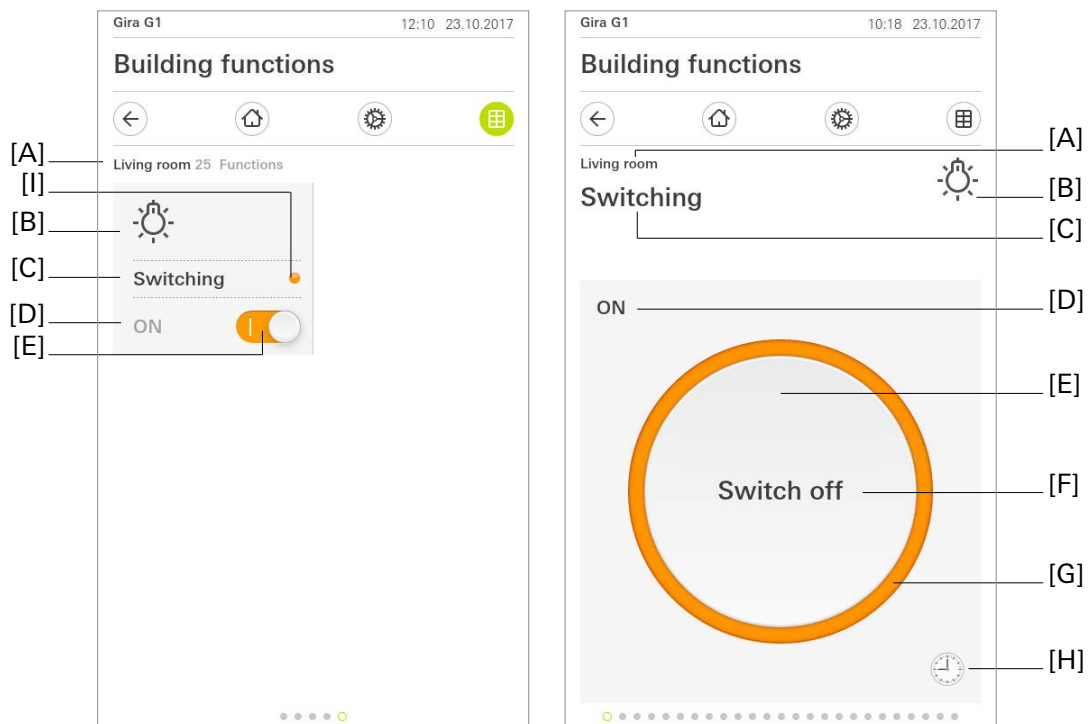
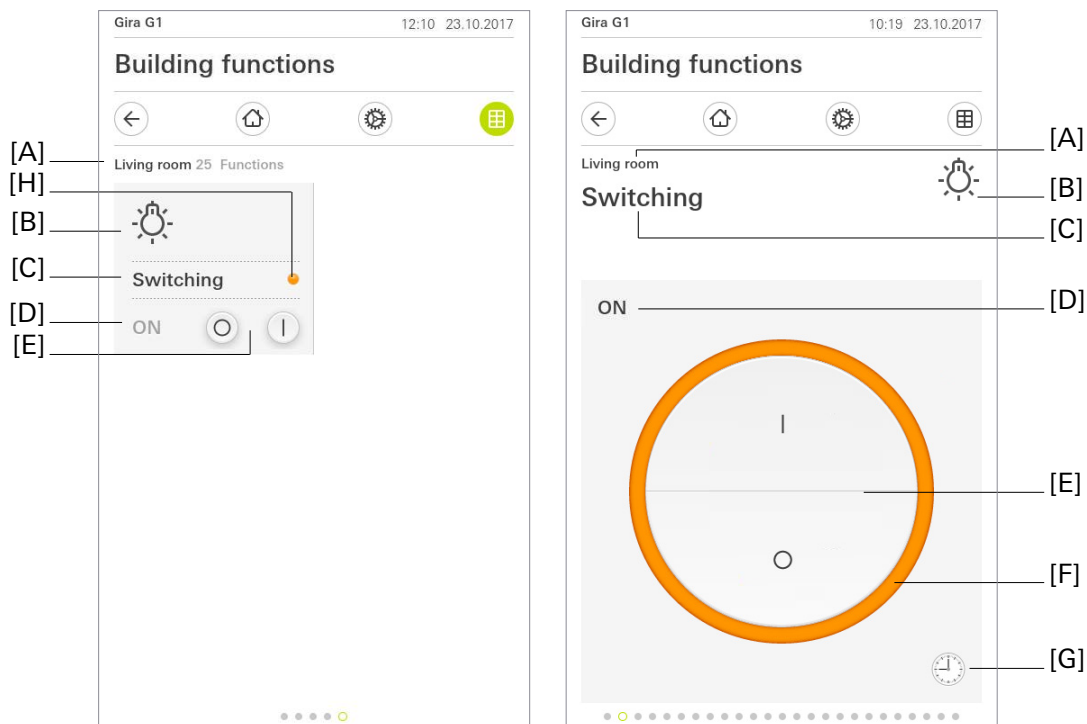

Bild 1: Example of operating and display element of the "Switching" function (button function).
Bild 2: Example of operating and display element of the "Switching" function (rocker function).
- i** The "Switching" channel function can be executed as a button or rocker function, depending on the ETS parameterisation. The graphic (Bild 1) shows an example of the button function. The graphic (Bild 2) shows the rocker configuration.